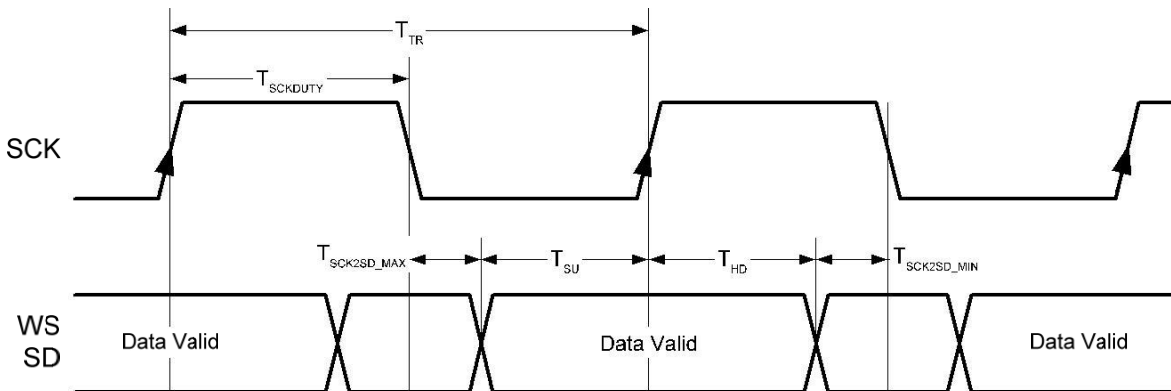

Figure 17. I2S Output Timings
- Refer to Figure 17. Meets timing required by the Philips I2S Specification.
Valid serial data is available at TSCK2SD after the falling edge of the first SCK cycle, and is then captured downstream using the active rising edge of SCK one clock period later. The setup time of data to SCK (TSU) and hold time of SCK to data (THD) are there a function of the worst case SCK-to-output data delay (TSCK2SD). Figure 17 illustrates this timing relationship. Note that the active SCK edge (rising edge) is shown with an arrowhead. The logic is reversed a falling edge sampling clock.